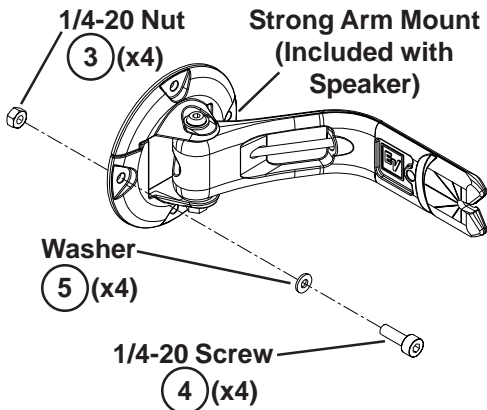
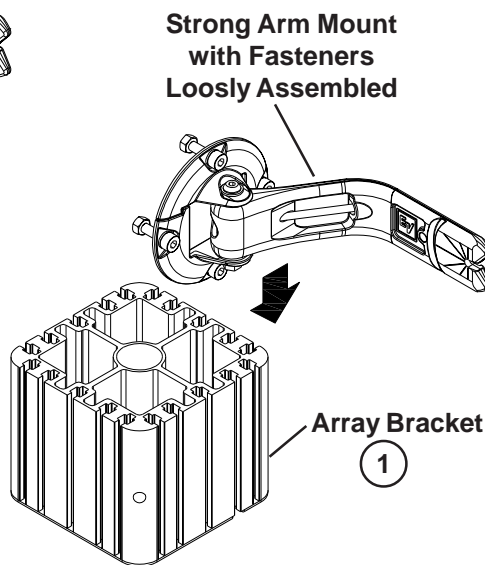

**Figure 3b:**
**Figure 3c:**
1. There are five channels on each side of the array bracket that correspond to different Strong Arm Mounts. ZX1i loudspeakers use the center channel and the two outer channels (Figure 3a), EVID 4.2 and 6.2 loudspeakers use the middle three channels (Figure 3b), and the EVID 3.2 uses the center channel only (Figure 3c).